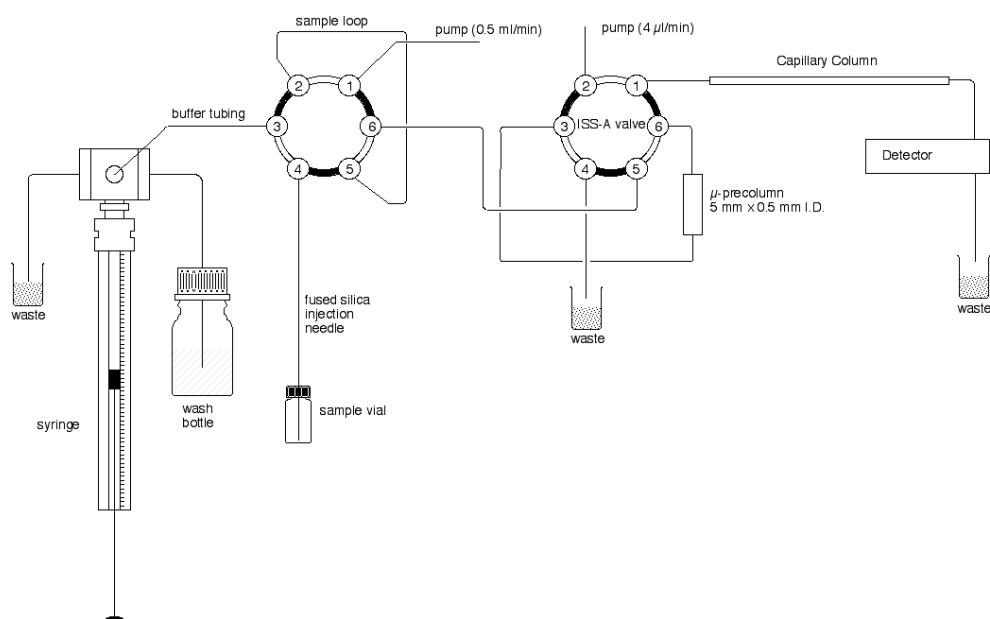

FIGURE C-1. Column Switching Setup
- Set the system up according to FIGURE C-1.